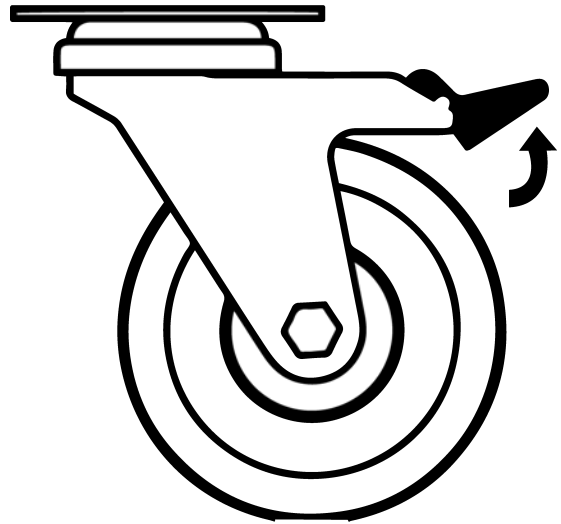

Fig 2. Castor Unlocked
- Ensure when placing the glassware drying oven into place that the castors can be accessed so they can be locked (**Fig 3**) and unlocked (**Fig 2**). Please contact your supplier or Thermoline should there be any damage to the castors.